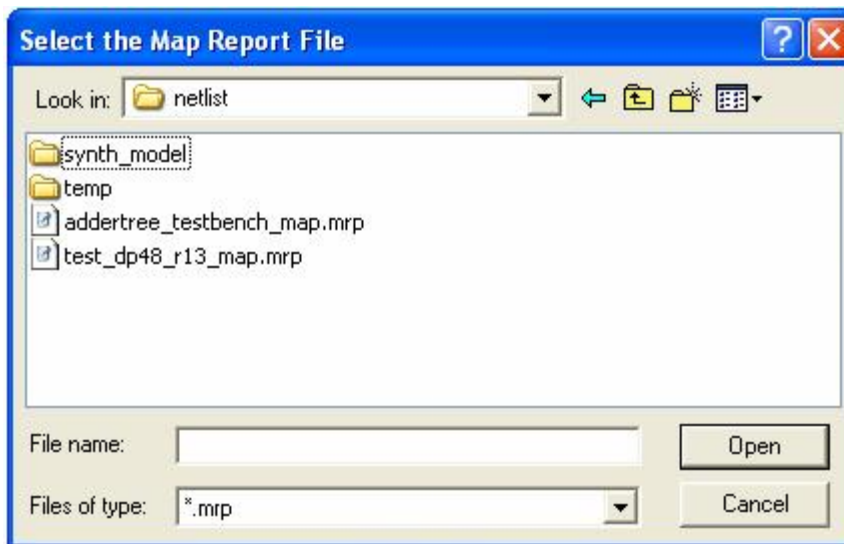

Figure 2 Read MRP file browser
- **Read MRP:** Causes the Estimate button to open a file browser as shown in **Figure 2** and results from a selected MRP file are read into the Resource Estimator. This method of obtaining resource information is available for subsystems that have been previously synthesized, translated and mapped. This can be useful for complex Xilinx blocks that have no estimation function and will no longer change in a design.